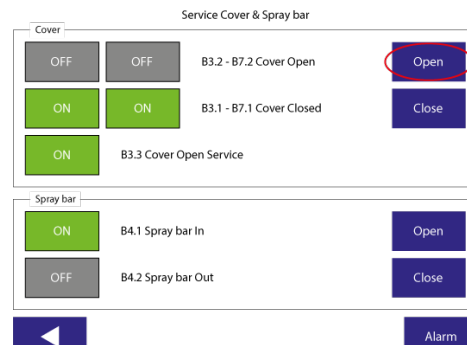

Figure 6.7 Service Cover & Spray bar menu.
5. In the “Service Cover, Spray bar” window, there are 5 position sensors B3.1-B3.3 and B7.1-B7.2, which indicate the position of the cover, see Figure 6.7. When the cover is closed, the “B3.1 - B7.1 Cover Closed” lights come on. In order to lift the filter cover, press the “Open” button until the cover is completely open.
2. When the cover is fully opened on the backwash pipe side, B3.2, B3.3 and B7.2, as shown in Figure 6.7 will be on. The backwash pipe can now be extended, keep the “Out” button as shown in Figure 6.7 pressed until the “B4.2 Spray bar Out” light comes on.